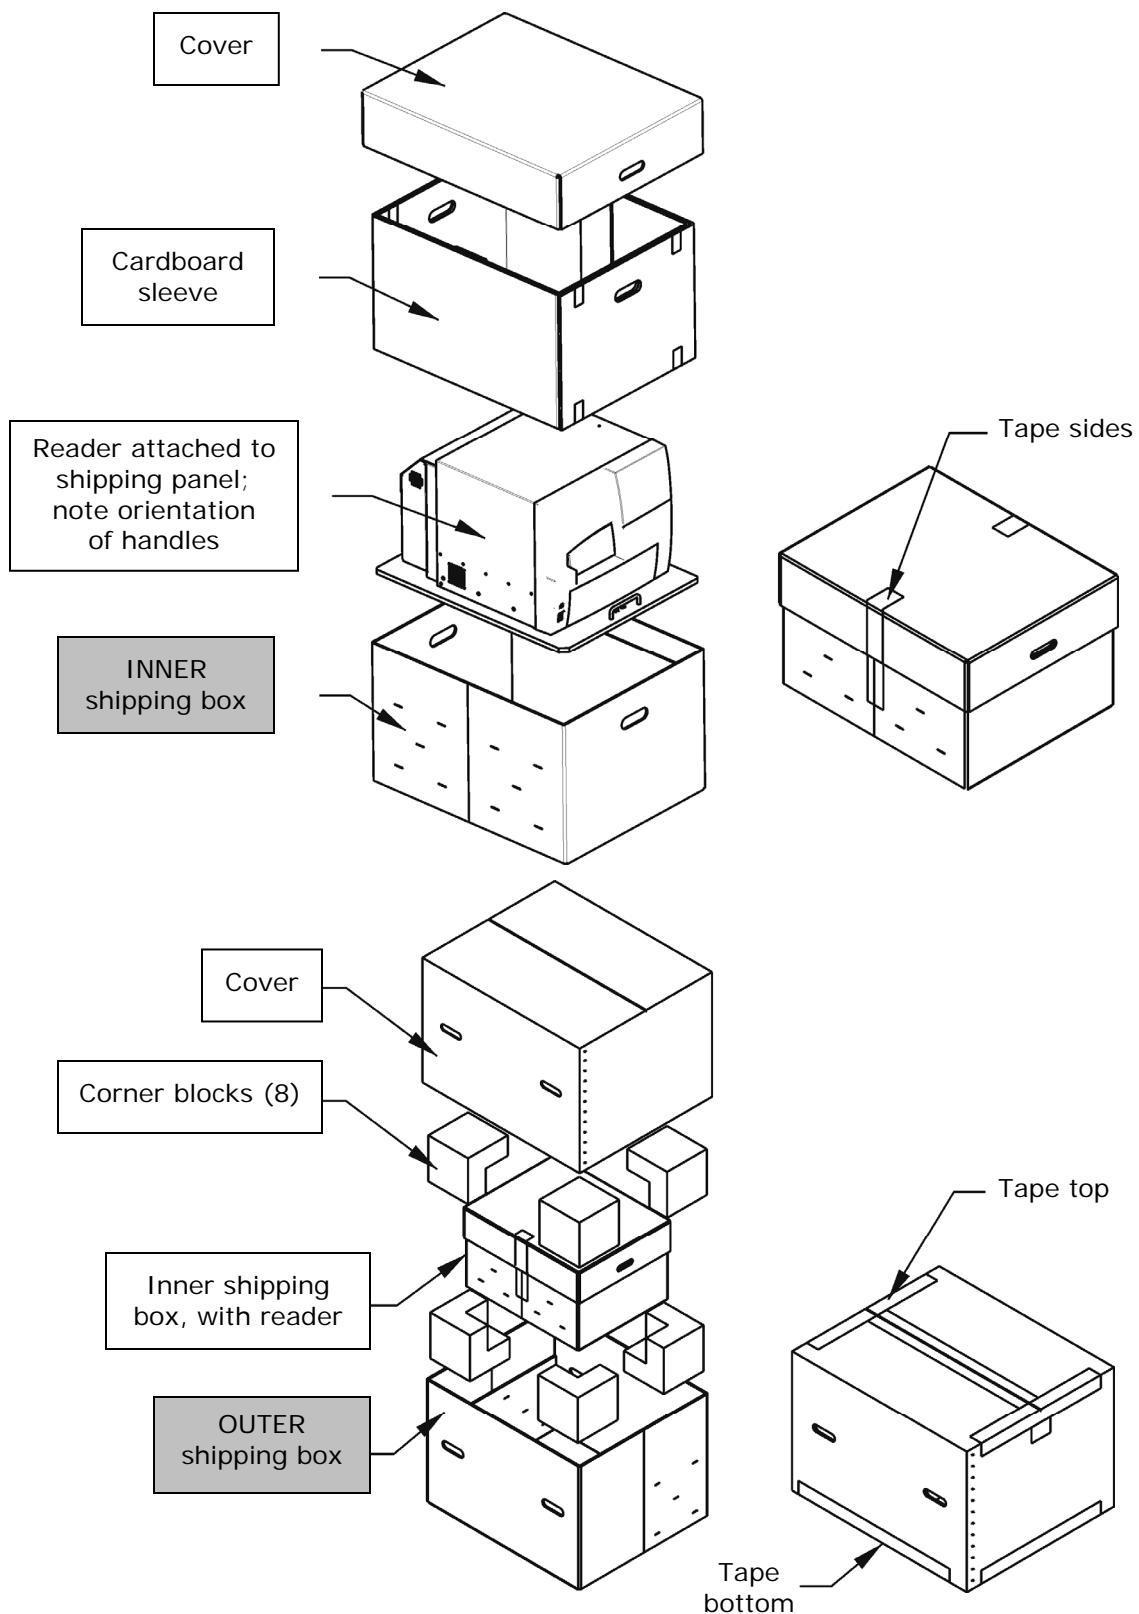

Figure 13: Packing the INNER and OUTER shipping boxes
7. Carefully tip the reader onto its back on the work surface. Attach the shipping panel to the bottom of the reader using the four flat-head screws and washers. Ensure the handles are oriented as shown in **Figure 13**.